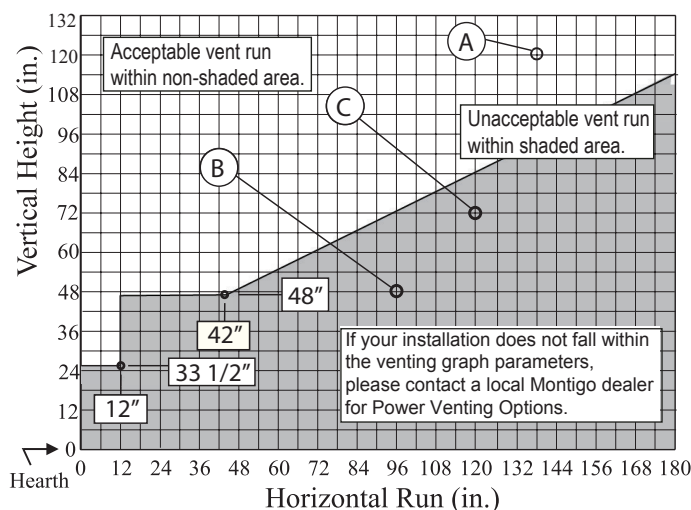

Figure 14. Side Vent Venting Graph for wall mounted terminations.
- Venting runs must fall within the limits set by the venting graphs, see Figure 14.
Measure the vertical height from the fireplace hearth to the centre of the termination and the horizontal run from the fireplace flue collar to the wall flange of the termination. Plot on the Venting Graph Figure 14 with an 'X'.
Figure 14b. Side Vented, wall mounted Multi-elbow termination installation. Installation for H*38DF*-ST must have a minimum vertical rise of 48". The vent run must comply with the Venting Graph for Side vent, wall mounted terminations, Figure 14.